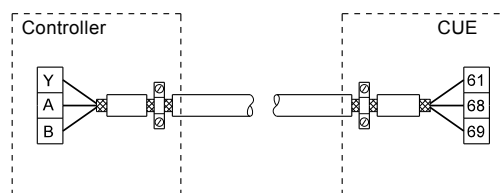
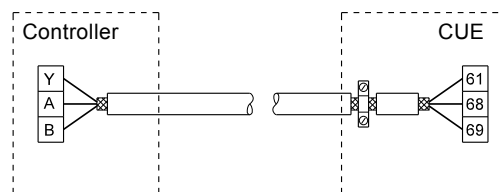

Fig. 143 Example of connection of a 3-conductor bus cable with screen connected at both ends
Fig. 144 Example of connection of a 3-conductor bus cable with screen connected at the CUE (controller with no cable clamps)
- Connect the screen to frame at both ends for both motor and signal cables. See fig. 143. If the controller has no cable clamps, connect only the screen to the CUE. See fig. 144.